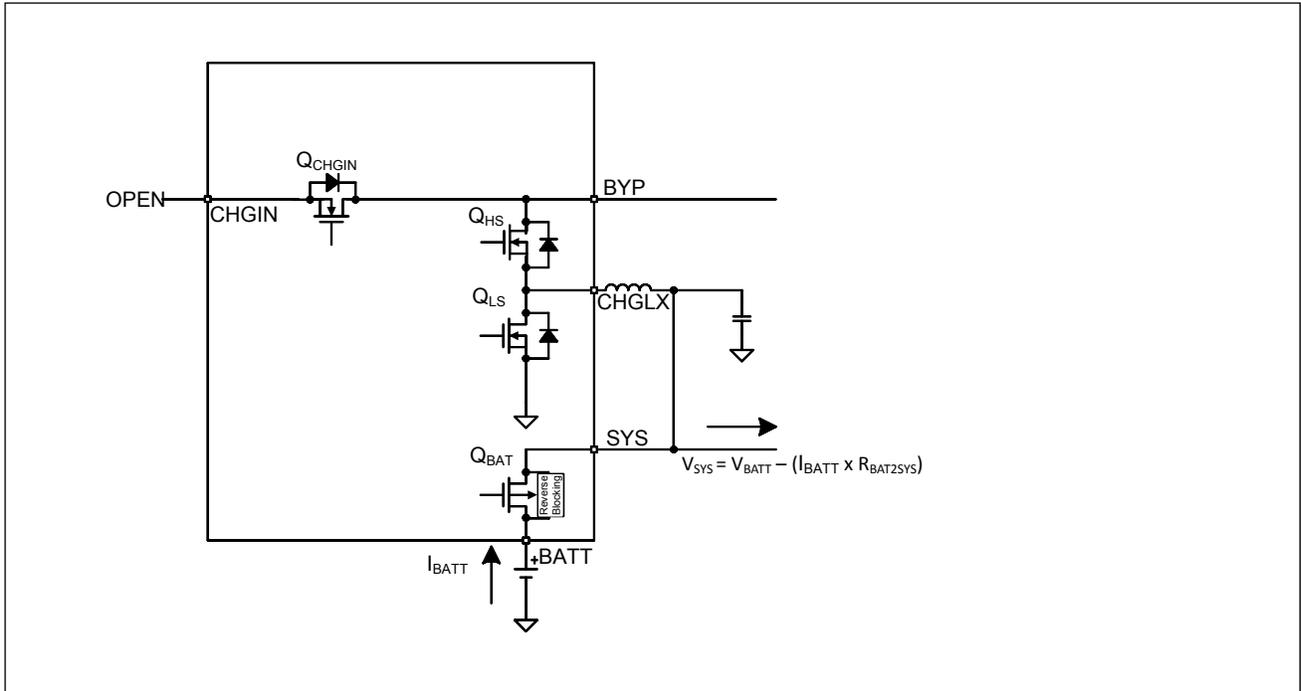

Figure 5. Battery Only
2. BATTERY-ONLY, MODE = 0x00. Adapter input is invalid, outside the input voltage operating range (Q_{CHGIN} = off). Battery is connected to power the SYS load (Q_{BAT} = on), and boost is ready to power OTG (boost = standby), see Figure 5.